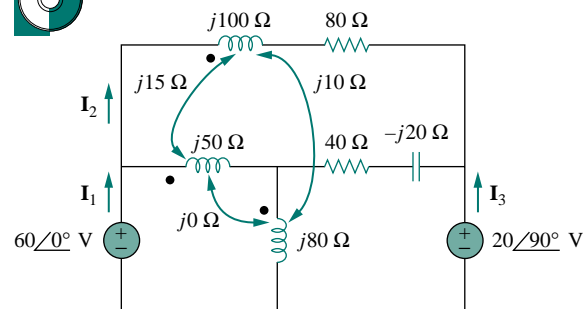

Figure 13.124 For Prob. 13.60.
13.60 Use PSpice to find I_1 , I_2 , and I_3 in the circuit of Fig. 13.124.